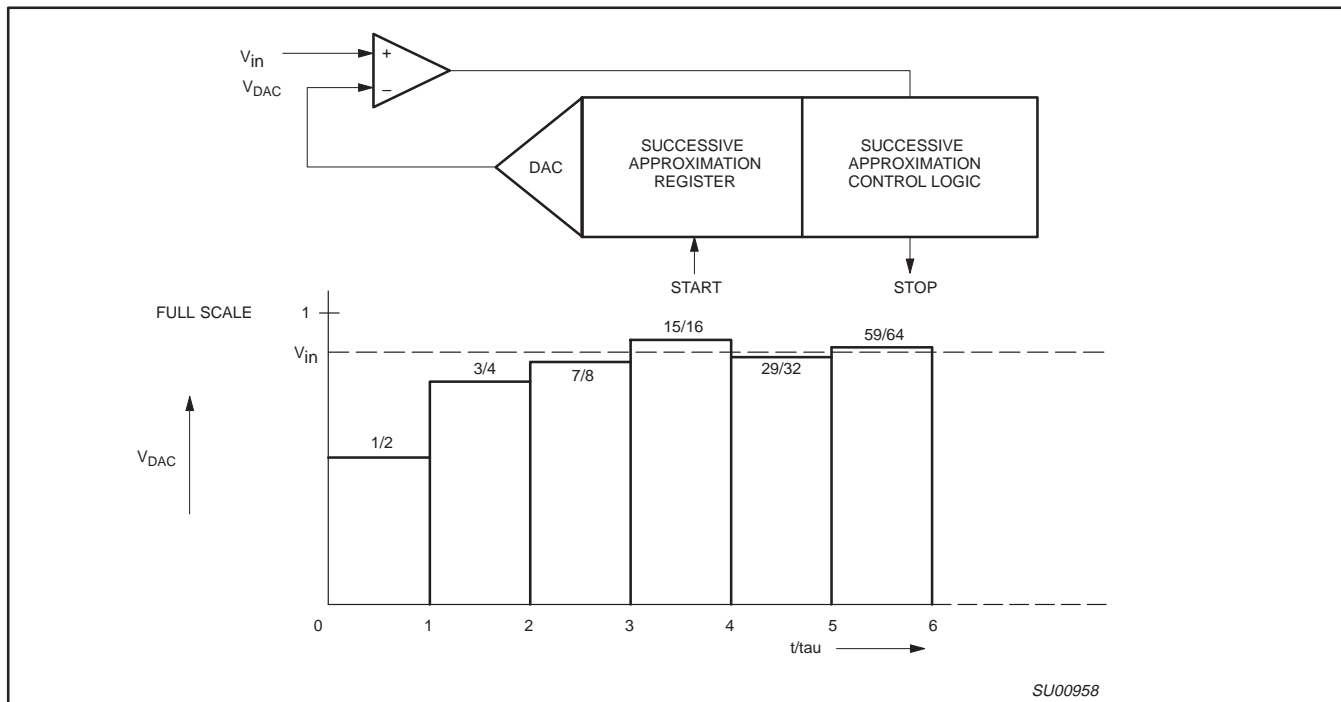

Figure 21. Successive Approximation ADC
10-Bit Analog-to-Digital Conversion: Figure 21 shows the elements of a successive approximation (SA) ADC. The ADC contains a DAC which converts the contents of a successive approximation register to a voltage (VDAC) which is compared to the analog input voltage (Vin). The output of the comparator is fed to the successive approximation control logic which controls the successive approximation register. A conversion is initiated by setting ADCS in the ADCON register. ADCS can be set by software only or by either hardware or software.